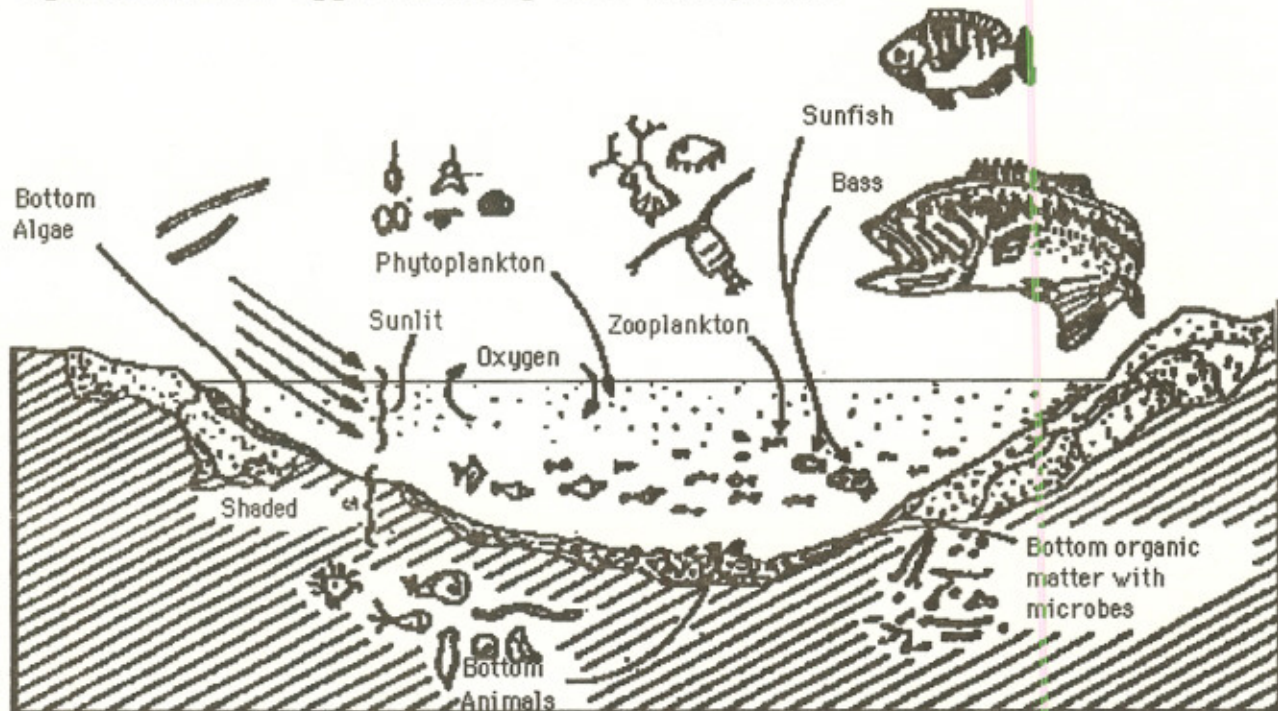
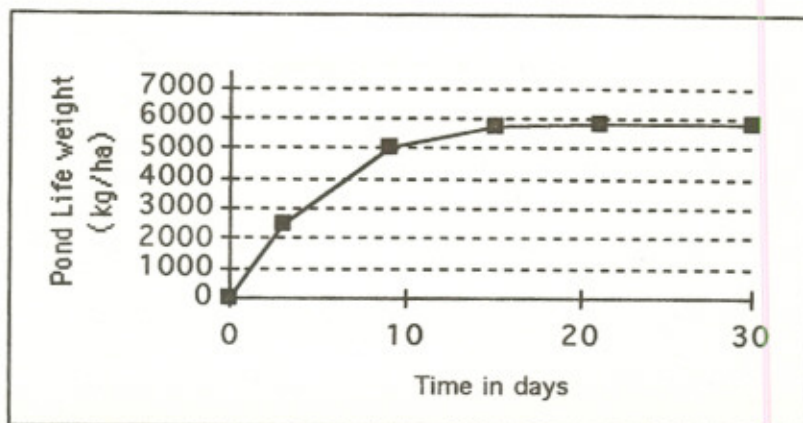

Figure 1. Picture of the one-hectare pond showing phytoplankton, zooplankton, plants, small bottom animals, sunfish, bass and microbes.
Figure 2. Graph of measured amounts of pond life biomass in the 1 hectare pond. The first measurement gave 1 kilogram of biomass.
Figure 1 gives you a general idea of what you want to have in the pond when you are finished. For now, assume that the pond has everything in Figure 1 except the Sunfish and Bass. Someone has been sampling the **biomass** (weight of living and dead organisms) and made a graph of that data (Figure 2). The first measurement indicates that there is 1 kilogram of biomass. Then the pond's biomass increases rapidly until it reaches a **steady state** or **equilibrium** of approximately 5800 kilograms.
increases until consumption equals production. In this example, the leveling off can be seen in the graph in Figure 2. Although yearly production and consumption in a pond may be nearly equal on the average, they vary over a year with the seasons.
4. Check with the graph of the pond life biomass data (Figure 2) for original biomass quantity (1 kg/ha), and type it in the Pond life dialog box.
Does your model predict the data that was measured (Figure 2)? Note two important similarities: